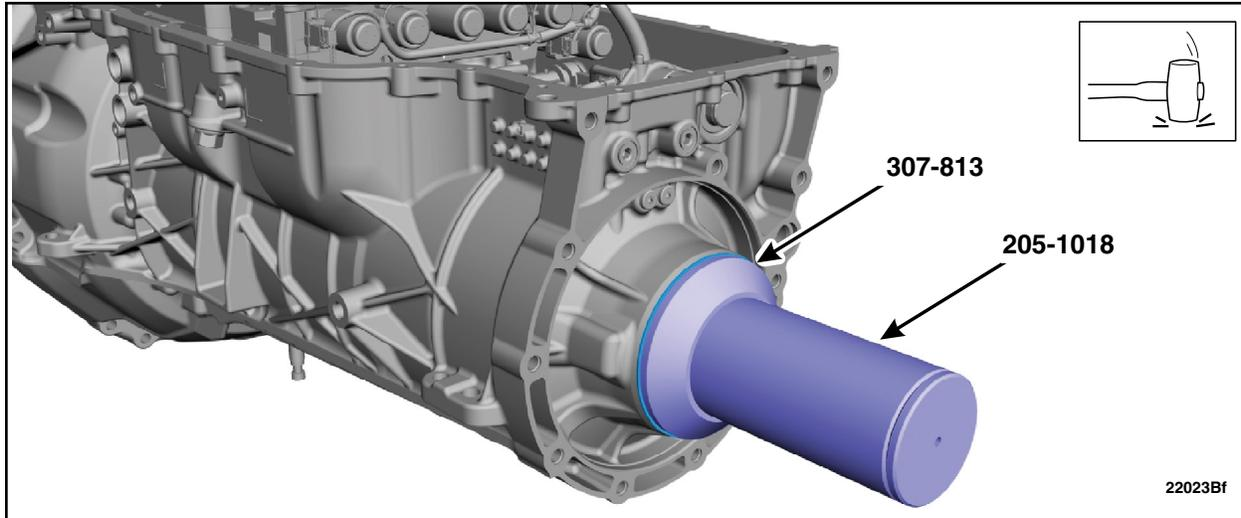

FIGURE 75
85. Using the Special Service Tool: 205-1018 Installation Tube., 307-650 Installer, Output Shaft Seal, install the *new* output shaft seal. See Figure 75.